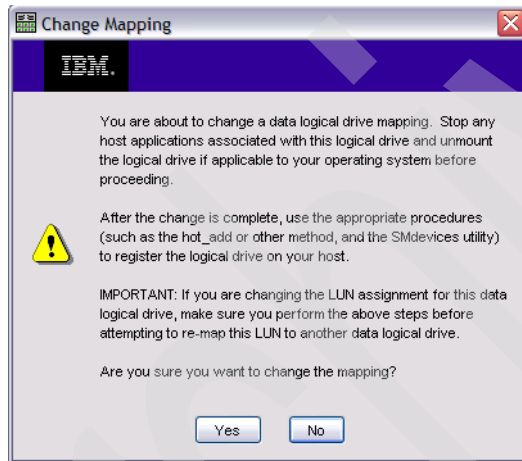

Figure 11-14 Change Mapping
3. Select a new host or host group from the first drop-down menu and select the required LUN number from the second drop-down menu. Click **OK**, and a confirmation window appears (Figure 11-14).